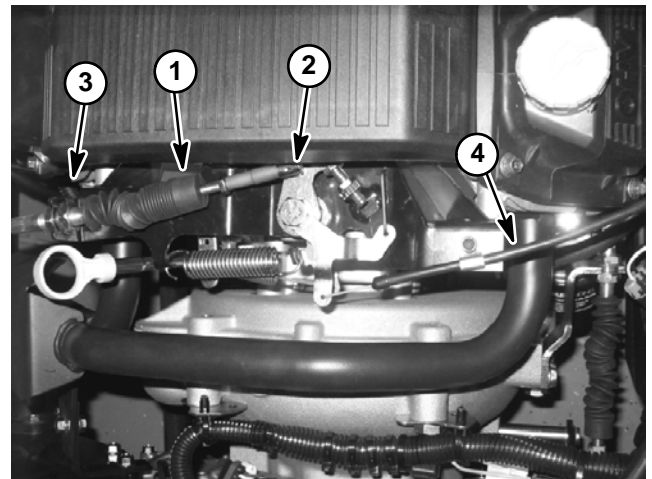

Figure 7
9. Disconnect accelerator cable ball joint (item 11) from throttle lever on engine. Loosen jam nuts on cable and remove cable from throttle bracket. Position accelerator cable away from engine (Fig. 7).
10. Disconnect choke cable (item 33) from choke lever on engine. Remove choke cable from bracket (Fig. 7).
13. Loosen and remove four (4) flange nuts (item 34) and flange head screws (item 36) that secure engine to engine mount.
14. Remove six (6) cap screws (item 19) and two (2) harness brackets (item 46) that secure clutch bell housing to clutch adapter on engine.
16. Note location and retrieve two (2) dowel pins (item 48) from bell housing.
1. Install flywheel (item 20) and/or pilot bearing (item 23) if removed. Torque socket head screw (item 22) from **35 to 40 ft-lb (48 to 55 N-m)** to secure flywheel to engine crankshaft.
3. If hydraulic pump drive pulley (item 3) was removed from engine, apply antiseize lubricant on engine stub shaft before installing pulley.
4. Place two (2) dowel pins (item 48) in bell housing.
6. Secure bell housing to clutch adapter on engine with six (6) cap screws (item 19) and two (2) harness brackets (item 46).
7. Secure engine to engine mount with four (4) flange nuts (item 34) and flange head screws (item 36).
8. Connect choke cable (item 33) to choke lever on engine (Fig. 7).
9. Connect accelerator cable ball joint (item 11) to throttle lever on engine (Fig. 7). Secure cable to throttle bracket with jam nuts.
12. Secure positive cable (item 37) and fusible link harness (item 41) to starter solenoid stud on engine.